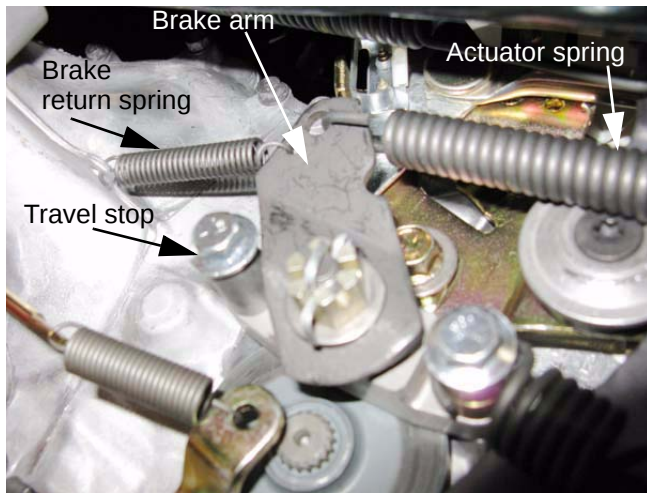

Figure 5.4
- 4b. If the linkage is working properly, but the brakes seem to be dragging, check the caliper. See Figure 5.4.